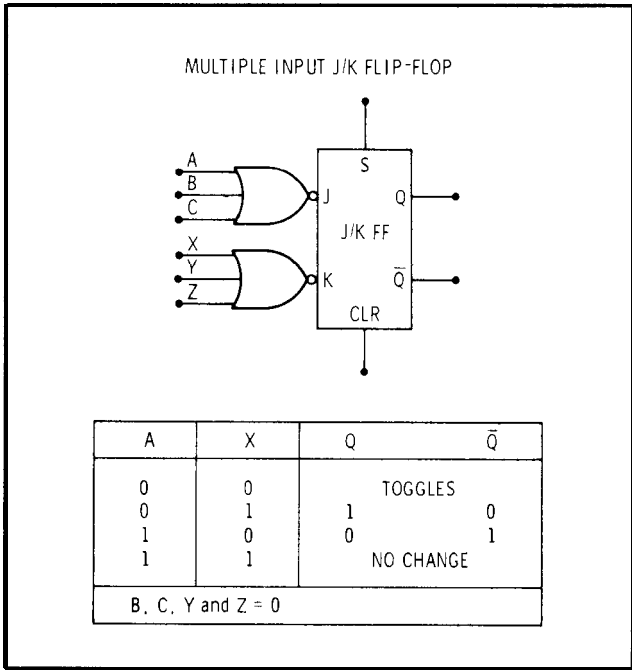

Figure 8-9. Multiple Input J/K Flip-Flop
**8-52. Multiple Input J/K Flip-Flop.** A multiple input J/K flip-flop is shown in Figure 8-9. It behaves like a J/K flip-flop with NORed inputs: if A, B and C are low, J is high, if A, B or C is high, J is low. A J-related and a K-related input may be tied together to form a trigger input; in this case the trigger would be active-low (if all other inputs are low).